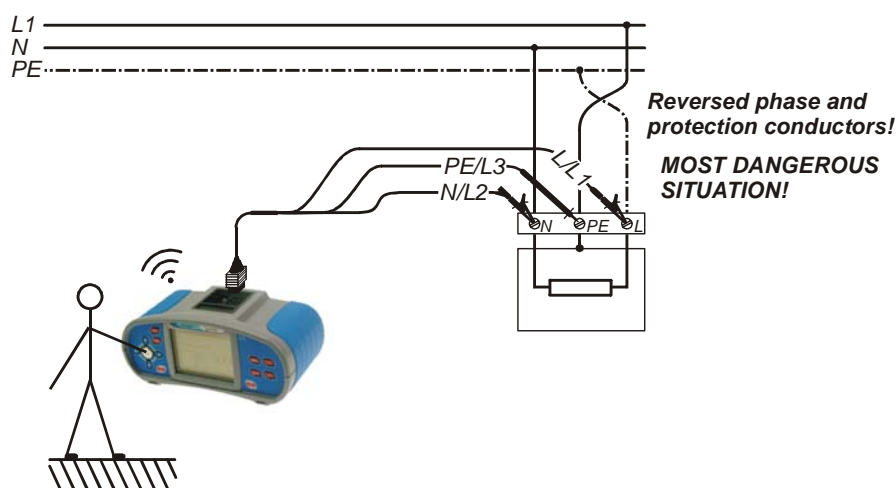

Figure 5.14: Reversed L and PE conductors
- ❑ **Connect** test leads to the tested object (see figures 5.14 and 5.15).